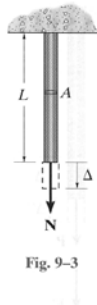

Fig. 9-3
- When an axial force N is applied gradually to the bar in Fig 9.3, it will strain the material such that the external work done by N will be converted into strain energy
- Fig 9.3